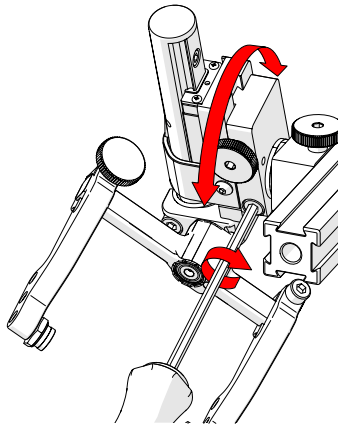

Fig. 114 - Rotate to position
4. Tighten the longitudinal adjustment screw (*Fig. 114*).